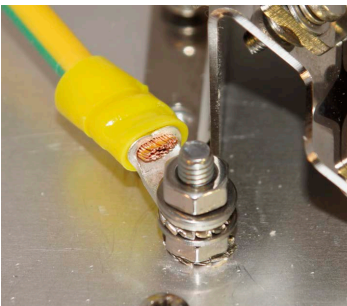

Figure 10: Grounding Bolt
**Note** The grounding strap must be as short as possible. If wire is used, use a minimum of 2.5 mm² copper wire. See *Figure 10: Grounding Bolt* on page 14.